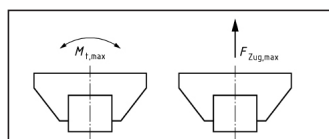

Fig. 1
**⚠** With dynamic stress, the forces and moments according to the table should be devaluated by at least 35 % as a guideline value. If necessary, you must consider the forces and moments (in derogation from Figure 1).